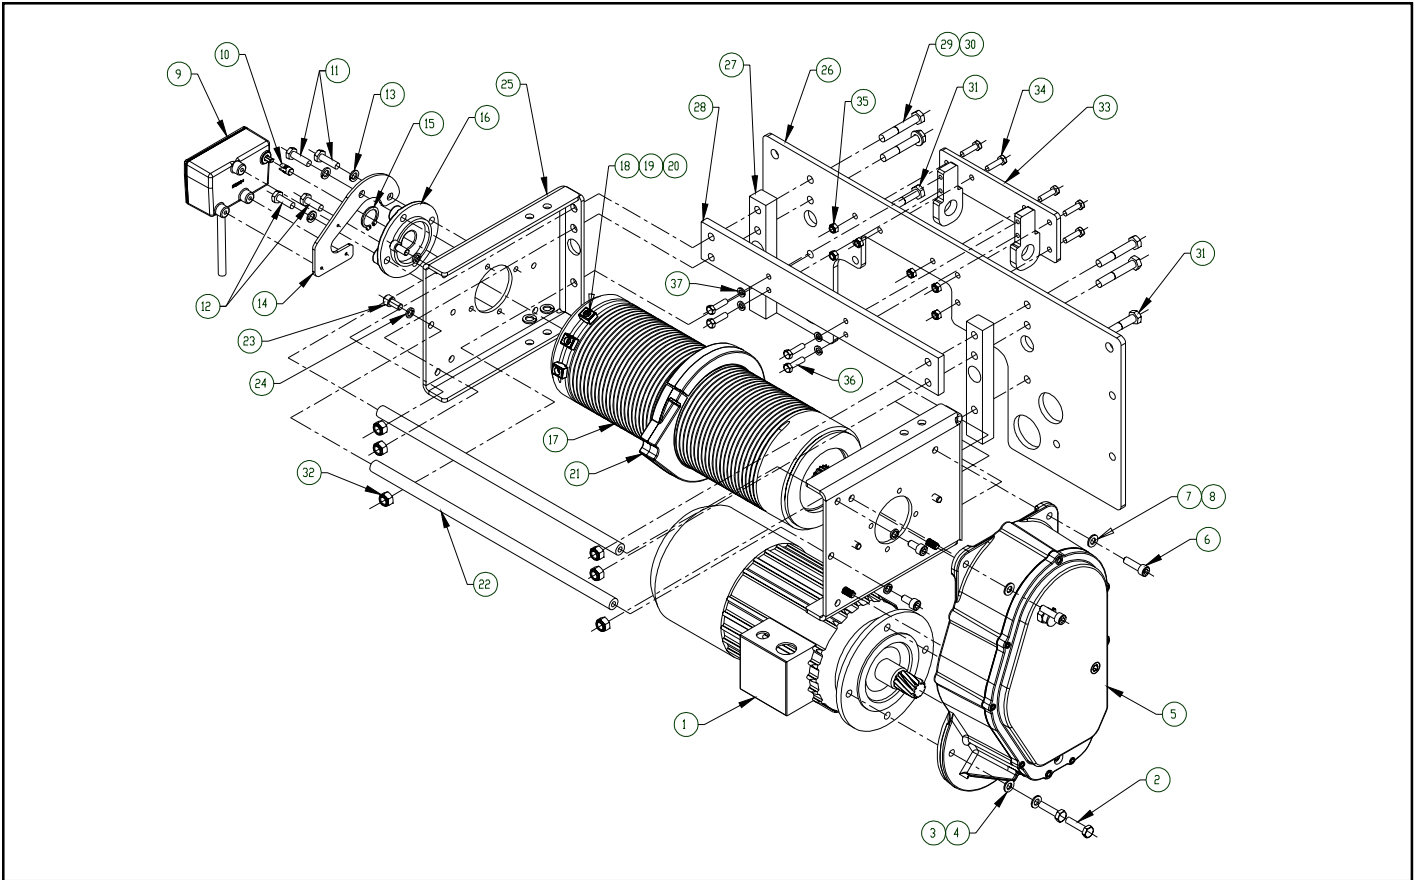

Figure 9-1. Hoist Drum, Drum Frame, Gearcase, Motor, Rope Guide and Screw Type Limit Switch
"A" Frame S2 Reeved: Hoist Components for Figure 9-1.
**"A" Frame S2 Reeved: Hoist Components for Figure 9-1. (continued)**